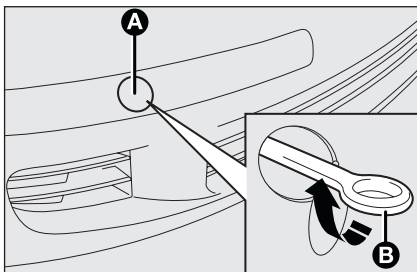

fig. 45
- ☐ take the tow hook **B**-fig. 45 from the support;